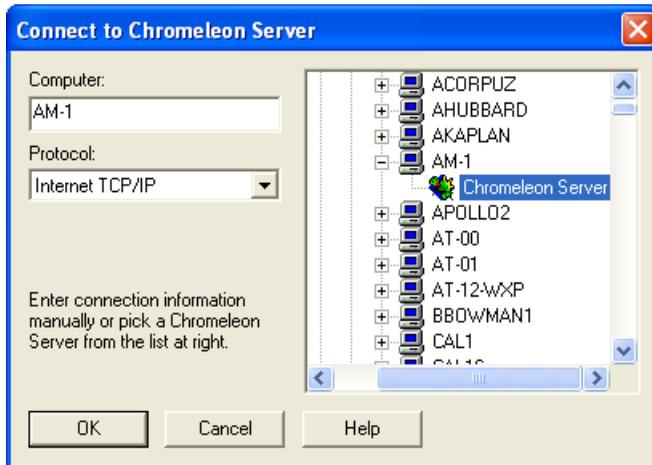

Figure C-11. Select the Chromeleon 6.8 Server
- c. Select the Chromeleon 6.8 Server (see Figure C-11).